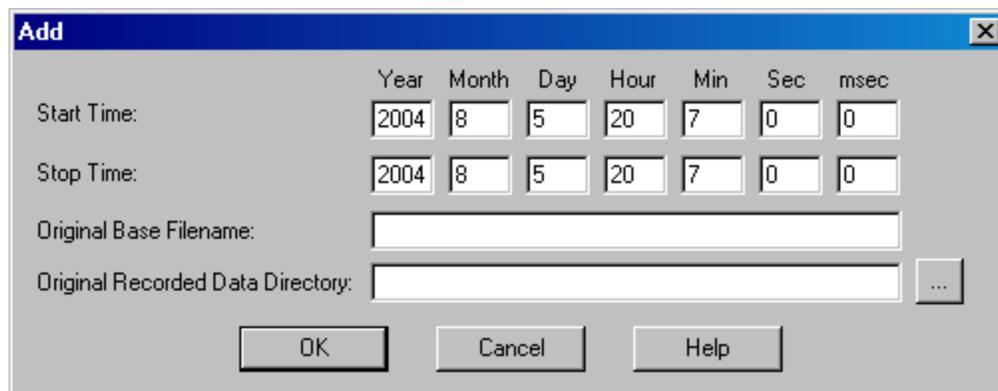

Figure 9 Add Dialog
- On the Files Tab push the Add button. You will see the dialog shown in Figure 9.